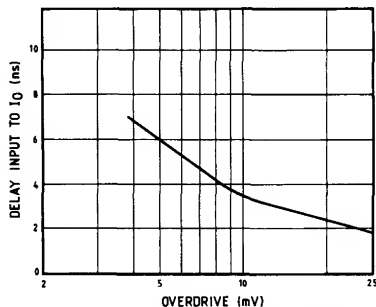

Fig.5 Input to  $I_o$  output delay v. overdrive
3. Due to the relatively low gain of the comparator in the unlatched state, propagation measurements are defined with a  $25$  mV overdrive. The relationship between overdrive and delay is shown in Figs.5 and 6.